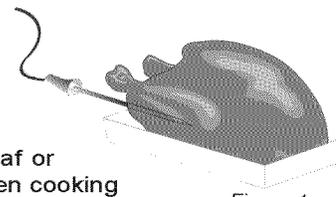

Figure 1
- Always use the broiler pan and its grid when broiling. It allows the dripping grease to be kept away from the high heat of the broil element (see Figure 1).
3. For whole poultry (chicken, turkey, etc.), insert the probe into the thickest part of the inner thigh from below and parallel to the leg (see figure 1).